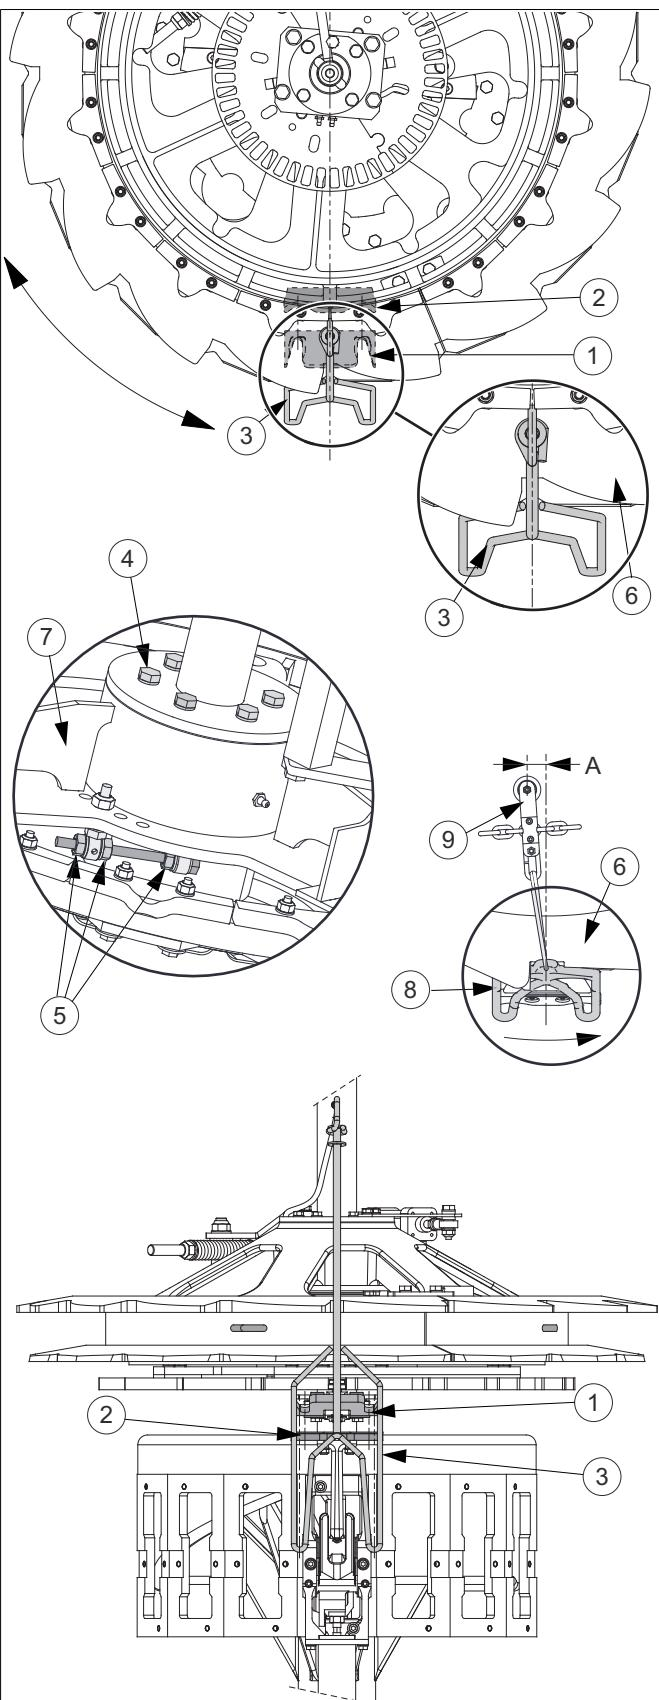

fig. 23 Evis shackle timing
3. For rigid shackles, rotate drive wheel assembly 7 as shown in fig. 23 to align center of shackle 3 with the center of carrier 1 and transfer unit 2.
See fig. 23.